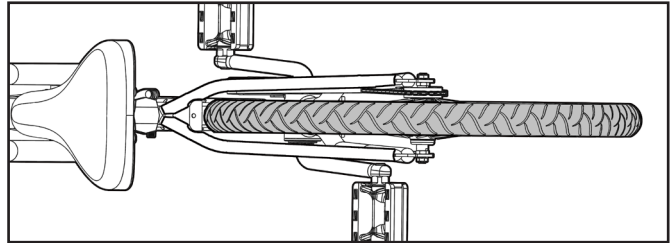

Figure 48
- NOTE:** Make sure the rear wheel is centered in the bicycle frame (see Figure 48).